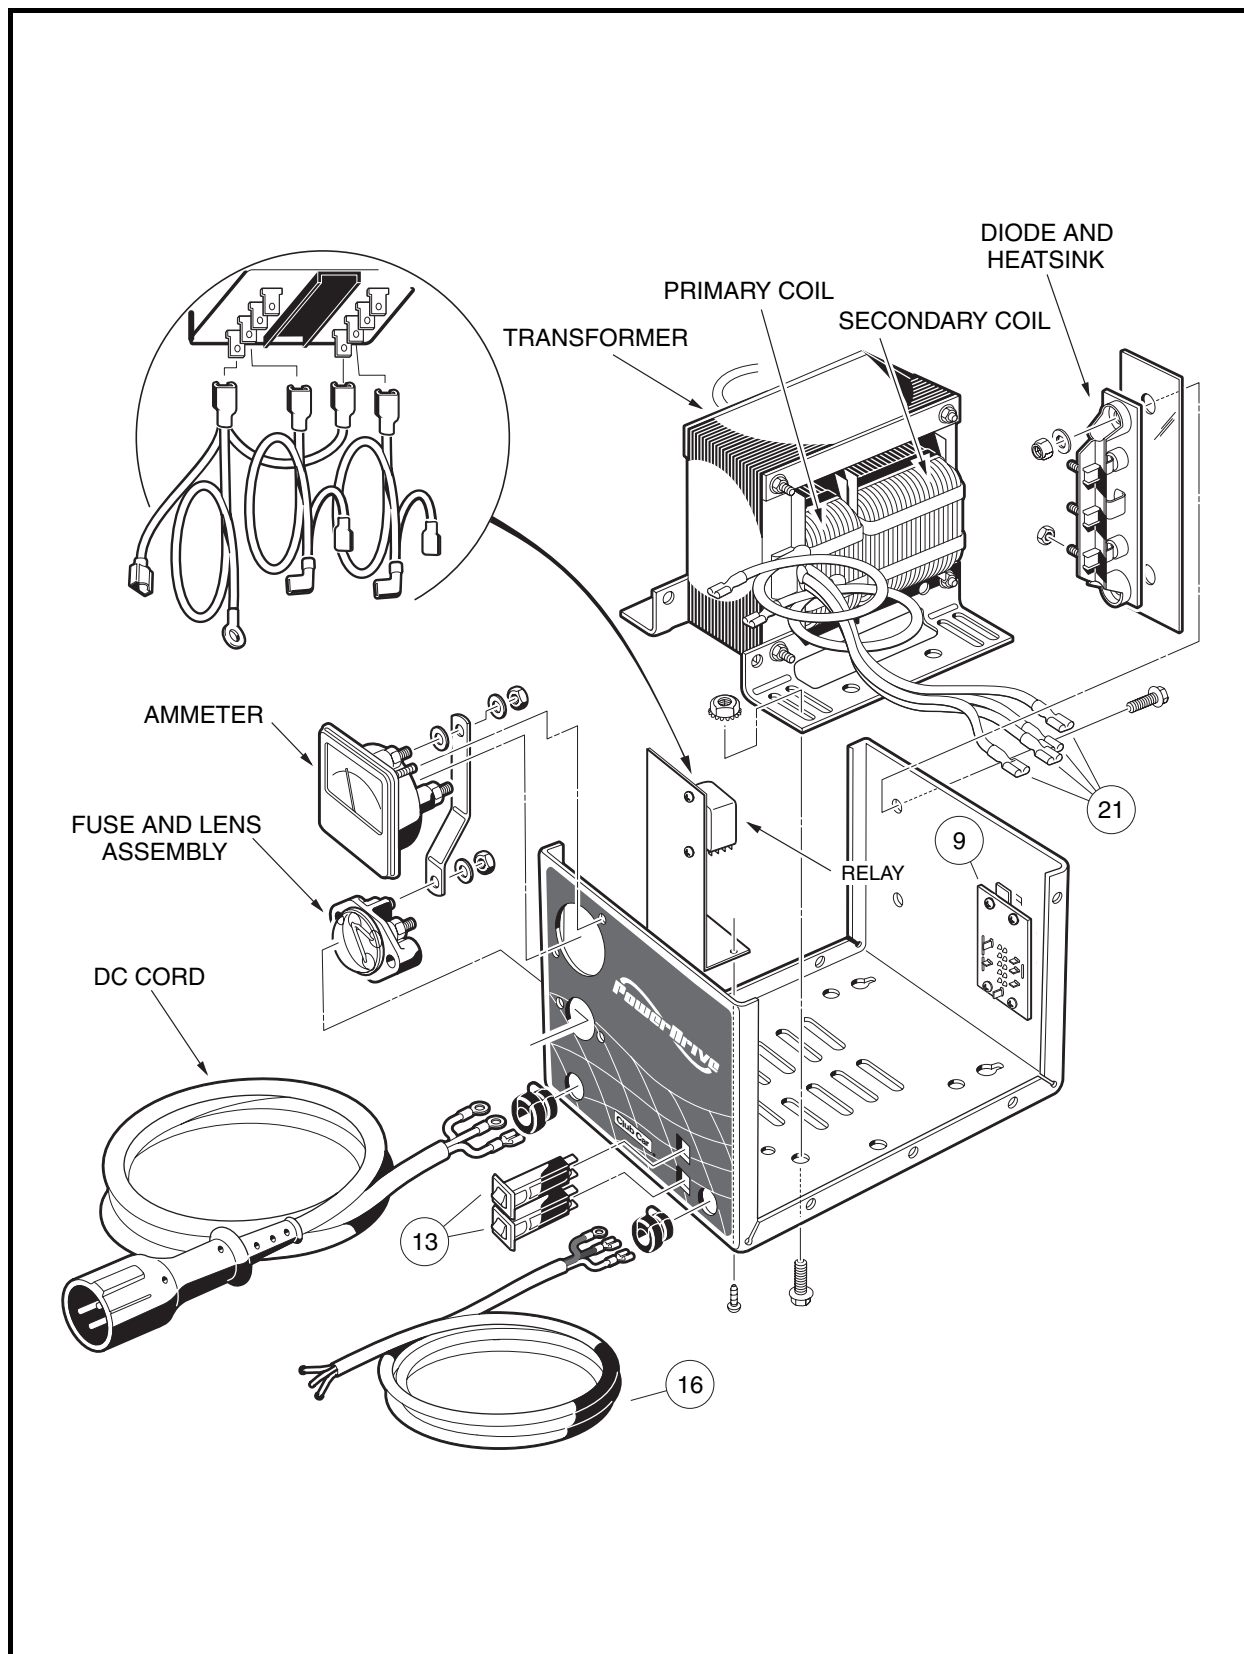

Figure 3-12 PowerDrive Battery Charger (Export) – Exploded View
6. If the circuit is not complete, check the wiring of the AC cord (16), transformer primary coil wires (21), internal AC circuit breakers (13), voltage selector switch (9), and jumper wires (**Figure 3-12, Page 3-17**).